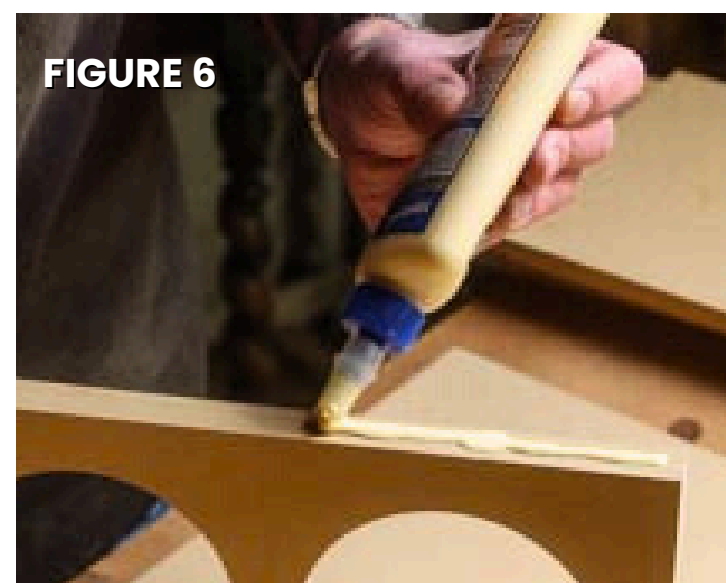

FIGURE 6
6. Apply wood glue to mating seams as shown in the pictures, pausing to let the glue dry before moving to the next set of panel glue application. The side panel that is **NOT** being glued in a given step can be used to keep panels aligned by dry-fitting them into the dadoes. (*figure 6*)